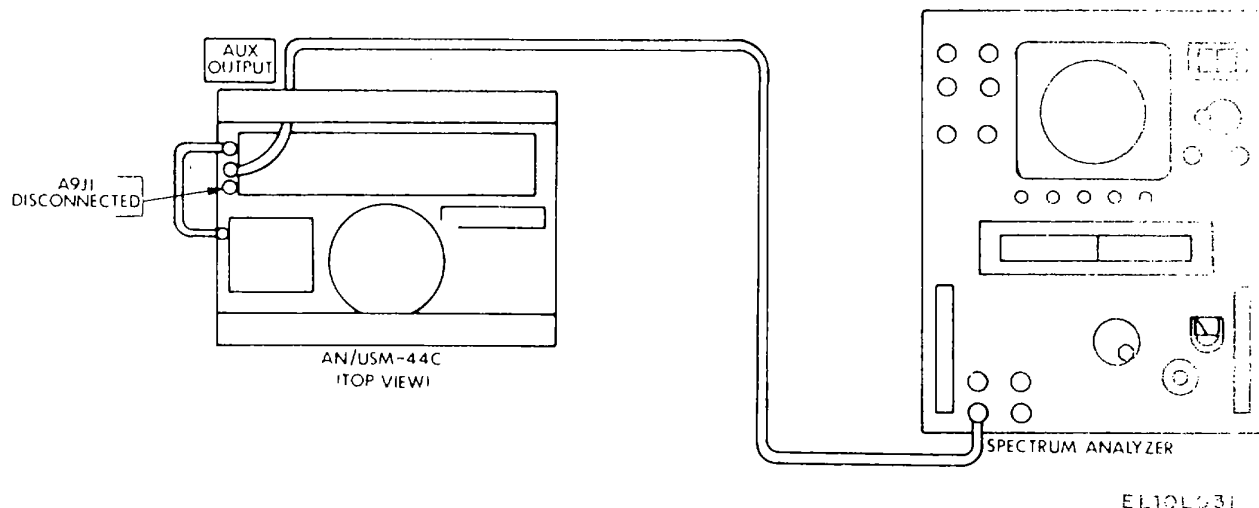

Figure 7-24. Marker amplitude adjustment, test setup.
(1) Connect test equipment as shown in figure 7-24
(2) Adjust R8 on A5 for maximum waveform amplitude.